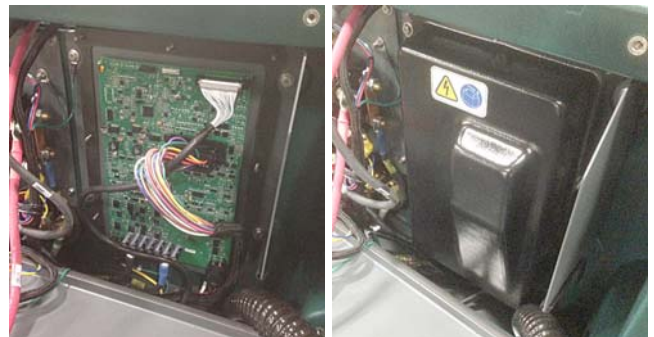

Fig. 5
5. Carefully install new circuit board, reconnect wire connections and replace covers (Figure 5).